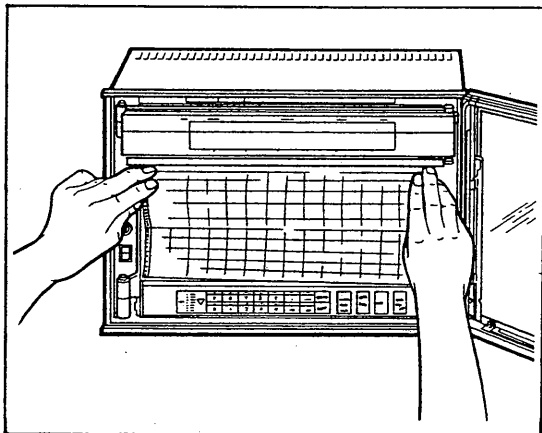

Figure 5-6.
- (6) Hold the chart paper so that chart paper perforation holes are not disengaged from the chart feed roller sprocket. Place the chart paper compartment back in position by lifting it until it stops completely (see Figure 5-6).